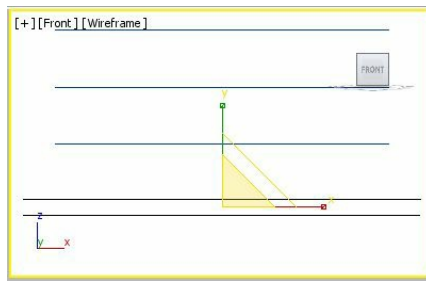

Figure 10-88 The Circle001 and Circle002 splines scaled vertically
11. Select *Circle001* and then by pressing CTRL key, select *Circle002*. Next, right-click on the **Select and Uniform Scale** tool; the **Scale Transform Type-In** dialog box is displayed. In the **Offset:Screen** area, set the value 119 in the % spinner and press the ENTER key; *Circle001* and *Circle002* are scaled, as shown in Figure 10-88.